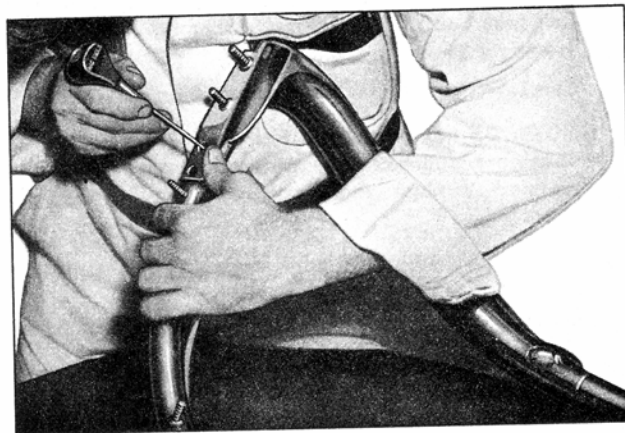

Fig. 7—Aligning Anchor Plates
7. Install one side frame onto rubber molding, align the anchor plates at the top of the side frames and install screws. Align holes in lower flange of side frame with lower frame anchor plate (fig. 7).